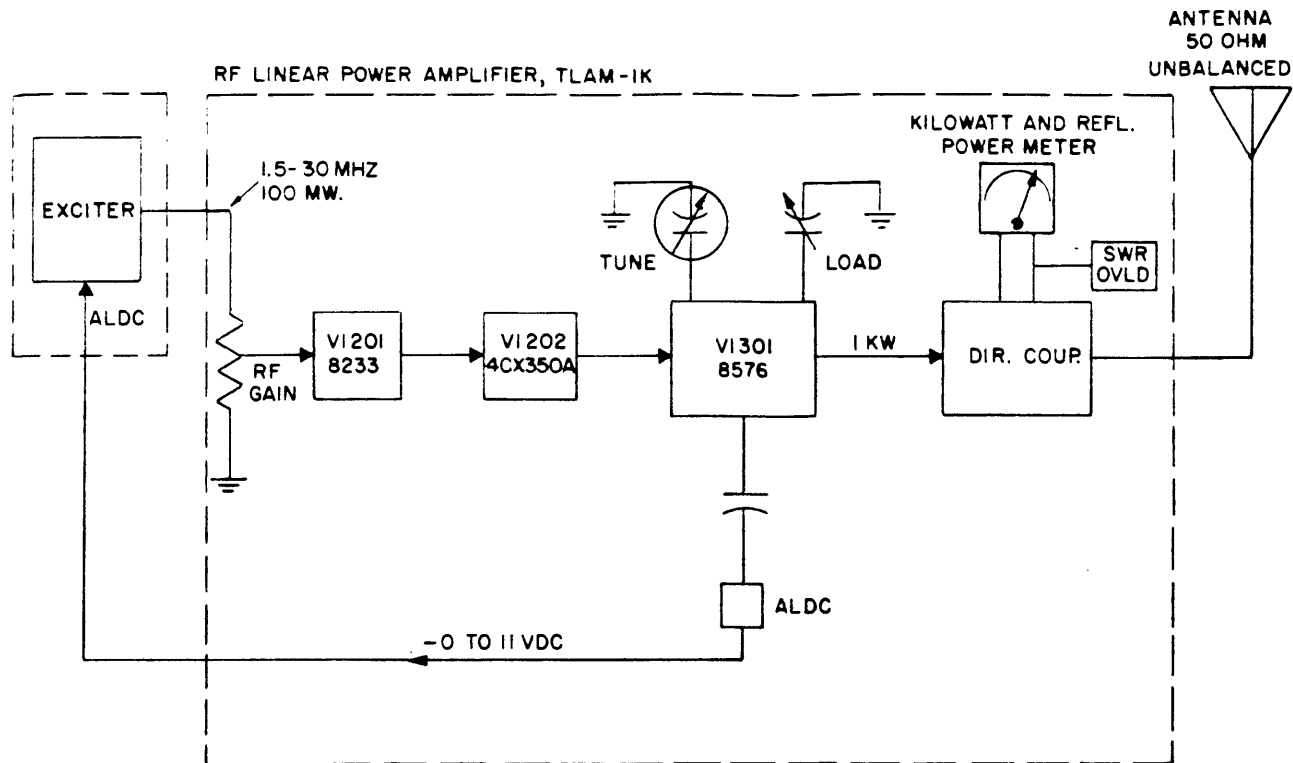

Figure 4-1. Block Diagram, HFLM-1K
4-2. BLOCK DIAGRAM ANALYSIS. (Refer to figure 4-1.)
Figure 4-1 illustrates the rf signal flow of the HFLM-1K. When all circuit conditions are met and a suitable exciter used to drive the HFLM, rf voltage is amplified and routed to the output connector in the following manner.
- (1) System block diagram (Section 4, figure 4-1)